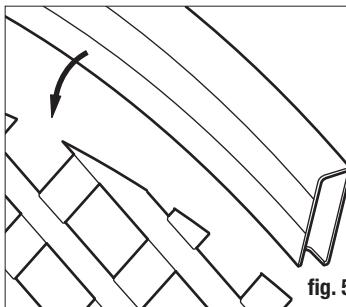

fig. 5
- Slide the top notched rail over the top of the lattice (fig. 5).
- Starting at a corner, mix concrete in the first hole per the instructions on the bag. Mix thoroughly and install the post into the hole and tap the post to the proper depth. Measure to be sure you can install the finished panel to the post with approximately a 2" gap from the ground to the bottom of the panel. You may also need to leave a space from the highest point of the panel to the top of the post (fig. 5). The spacing allows the cap to be installed on top of the post without interference with the top rail.
- Glissez la traverse supérieure à encoches par-dessus le haut du treillis (fig. 5).